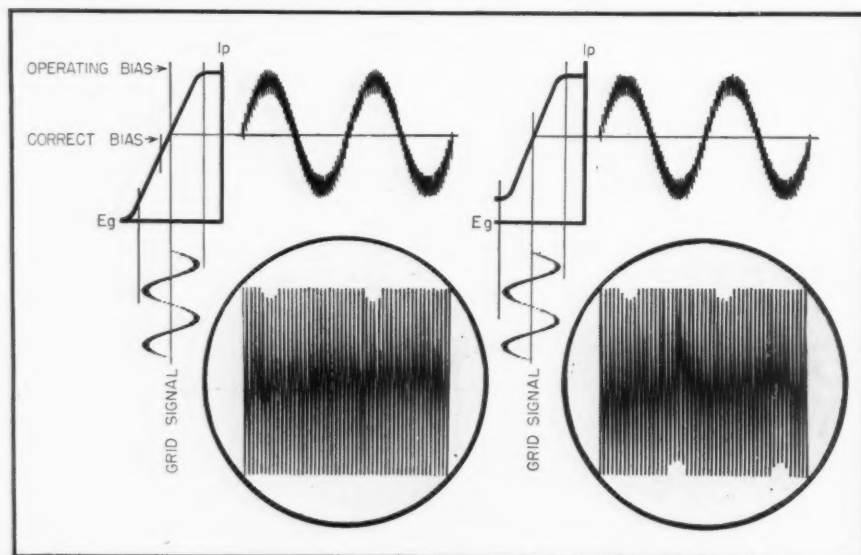
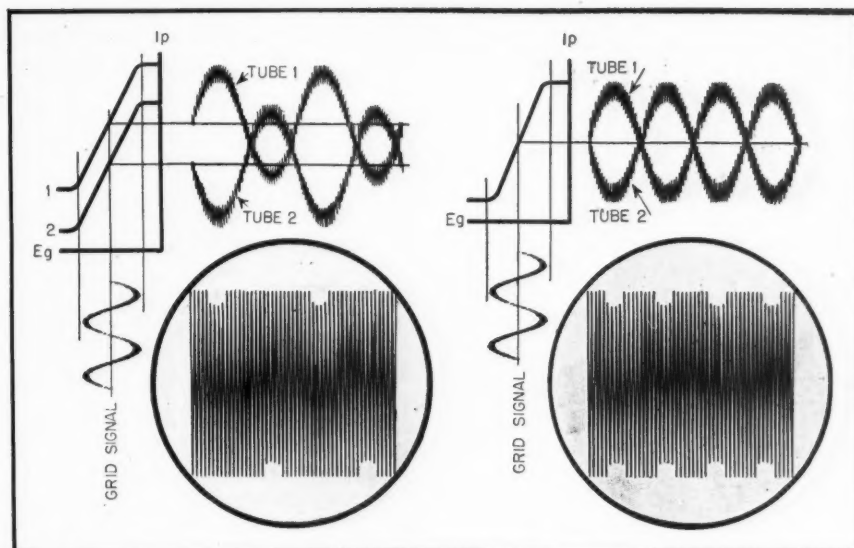

Fig. 5.  $I_p E_g$  curves, and type of indications resulting from single-tube amplifier stage with (A) insufficient bias, and (B), right, excessive input signal.
Fig. 6.  $I_p E_g$  curves, and type of indications resulting from push-pull amplifier stage with (A) insufficient bias, and (B), right, excessive input signal.
Fig. 7. FM calibrator components. Left to right are the oscillator-discriminator unit, audio amplifier, and power supply. In the foreground is the push-pull FM condenser, which is shown in an enlarged view in Fig. 5 (right).
The push-pull FM plates are mounted on the cutter so that the stylus is centered between them. Figure 5 shows the push-pull FM capacitor unit consisting of a  $\frac{1}{8}$ " thick Bakelite bracket in
To analyze the results obtained from this method refer to Figs. 5 and 6. In Fig. 5(A) is shown the test signal applied to the grid of a single-tube amplifier stage operating at an insufficient grid bias. As the amplitude of the test signal is increased, the positive swings of the plate current are flattened out ahead of the negative swings, and the high-frequency fringe of the test signal is clipped at certain points. When the filtered carrier is viewed on the oscilloscope, the effect of the clipping is shown by notches in one side of the pattern. Thus the presence of two notches on one side of the pattern is an indication of an incorrect bias condition in a single-tube stage. Note that the sweep circuit of the oscilloscope is adjusted so that it shows two complete cycles of the low-frequency signal.
In (B) of Fig. 5, the test signal is shown applied to a tube which is operating at the correct grid bias, but the amplitude of the signal is greater than the linear portion of the  $E_p I_p$  curve of
When making tests of push-pull stages, the patterns obtained from insufficient grid bias conditions are shown in Fig. 6(A) which shows the effect of the test signal applied to two push-pull tubes. The positive peak of the wave is clipped by one tube, while the negative peak (which is the positive peak to the opposite tube) is also clipped. The plate-current curves of the two tubes are shown, both having the tops clipped. However, due to the push-pull connection, one of these curves is inverted, so that four notches appear in the pattern, resembling that of Fig. 5(B). When a push-pull stage is operated beyond its maximum permissible grid swing, the pattern will exhibit eight notches, four on each side as in Fig. 6(B).